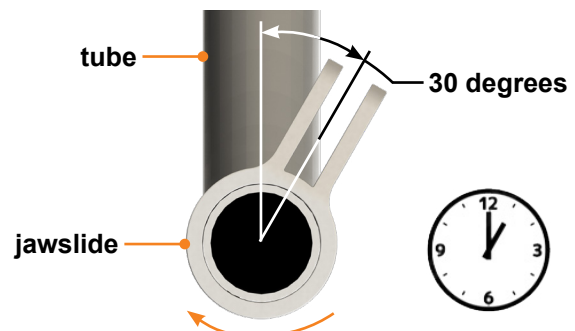

Fig.5
9. Rotate the jawslide to the 1 o'clock position (30 degrees) then secure it in place with the setscrew using an 1/8" hex wrench (Fig.5).